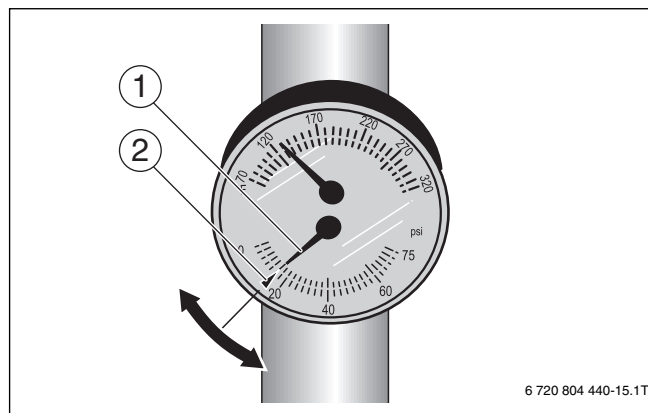

Fig. 15 Pressure temperature gauge
- ▶ Set static system pressure to at least 15 psi as indicated on pressure relief valve (→ figure 15).